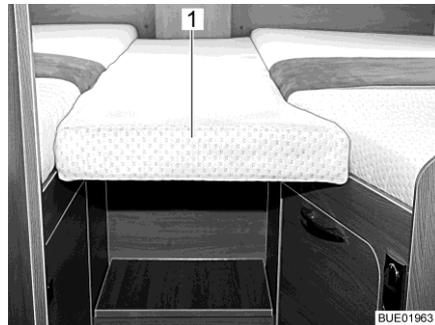
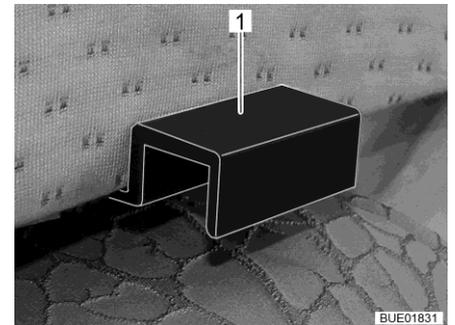

Fig. 152 Additional cushion
Fig. 153 Additional cushion holder
- Hook the additional cushion (Fig. 152,1) with the holders (Fig. 153,1) into the panels of the single beds so that a closed lying surface is created.